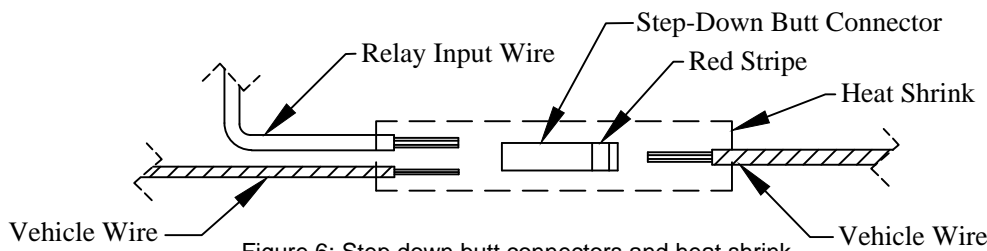
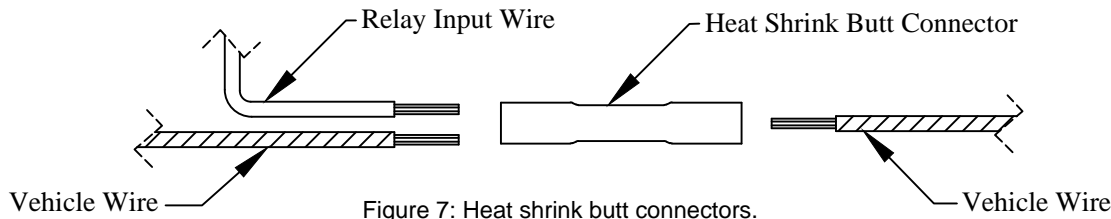
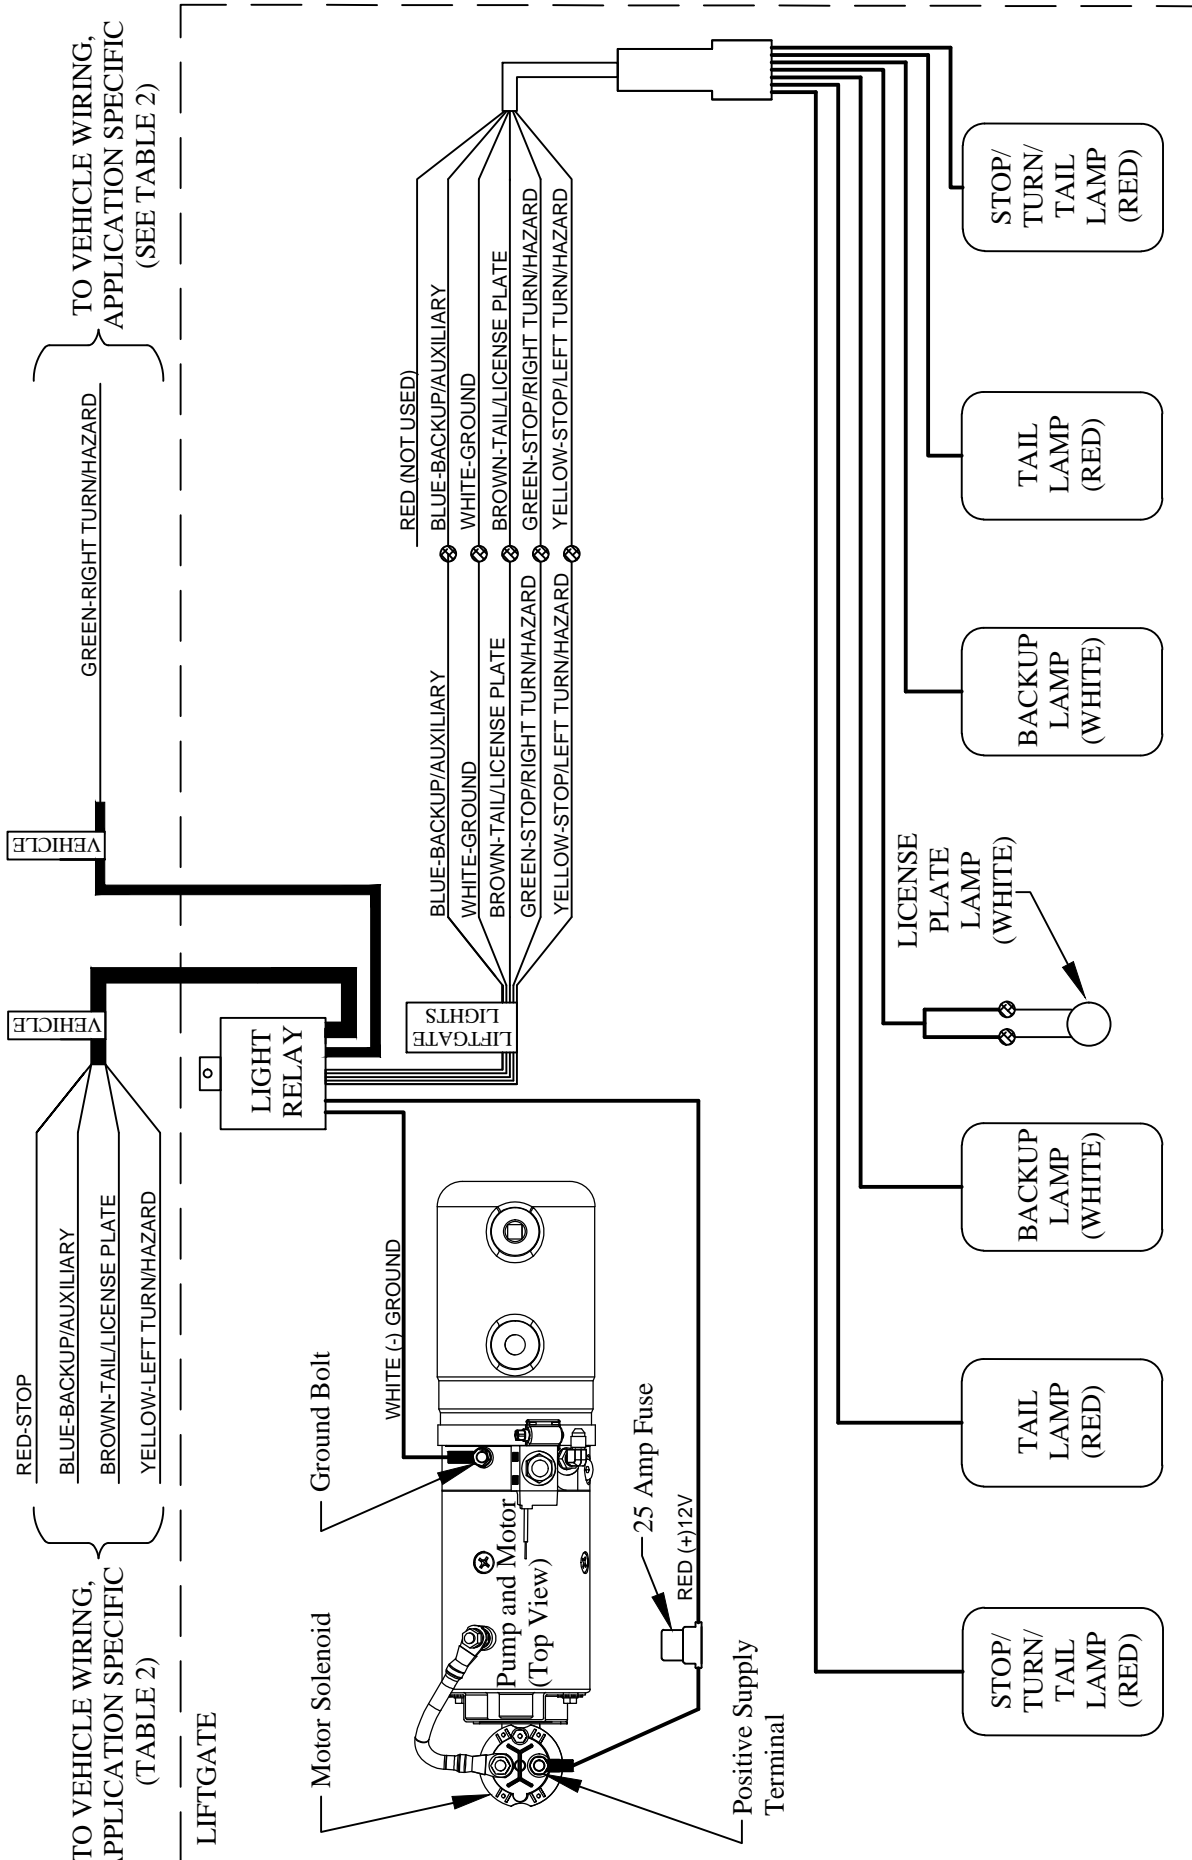

Figure 6: Step down butt connectors and heat shrink.
Figure 7: Heat shrink butt connectors.
Figure 9: Wiring Diagram, Installing 015862 12V Light Relay on Vehicles with Separated Stop/Turn (3-Wire) Lighting Systems
14. Connect the relay's ground (-) wire to the ground bolt on the rear of the hydraulic pump (Figure 8 or Figure 9).
16. Connect the relay's input wires, labeled "VEHICLE", by splicing to the corresponding wires in the vehicle's tail light harness or trailer tow harness (Figure 8 or Figure 9). Two types of butt connectors are provided (Figure 6 and Figure 7).
The step down butt connectors (22-18 gauge to 16-14 gauge) and heat shrink are used for small gauge wire that is commonly found in the vehicle's tail light harness. The red stripe on the butt connector indicates the small end of the connector (Figure 6).
The heat shrink butt connectors (16-14 gauge) are used for larger gauge wire that is commonly found in the vehicle's trailer tow harness (Figure 7).
18. Connect the relay's five output wires, labeled "LIFTGATE LIGHTS", to the corresponding wires in the liftgate's light harness using the provided heat shrink butt connectors (Figure 8 or Figure 9).
19. Connect the relay's positive (+) wire to the positive (+) supply terminal on the motor solenoid (Figure 8 or Figure 9).
20. Verify that the relay wiring matches the corresponding wiring diagram (Figure 8 or Figure 9).